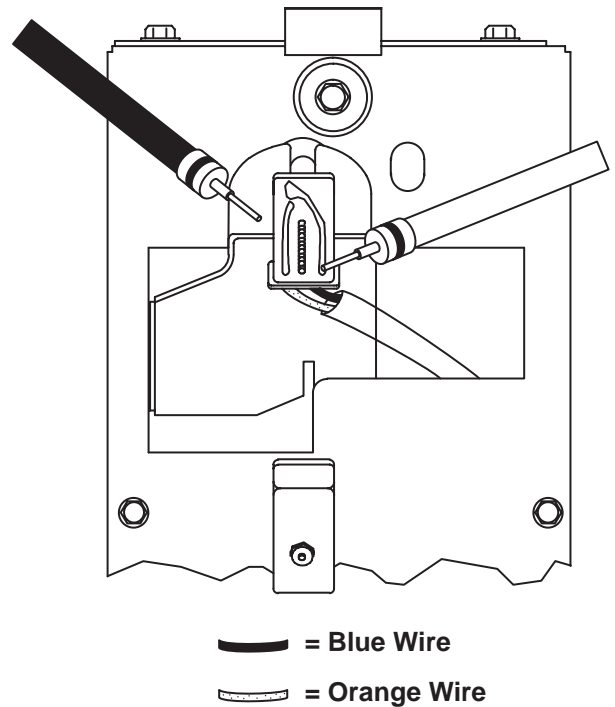

Figure 3-5A. Sensor Check
2. Remove the black plastic cover from the phototransistor and connect the Common meter lead to the metal dispenser backing plate as shown in *Figure 3-5A*.
3. Connect the + meter lead to the blue wire. (See *Figure 3-5A*.)